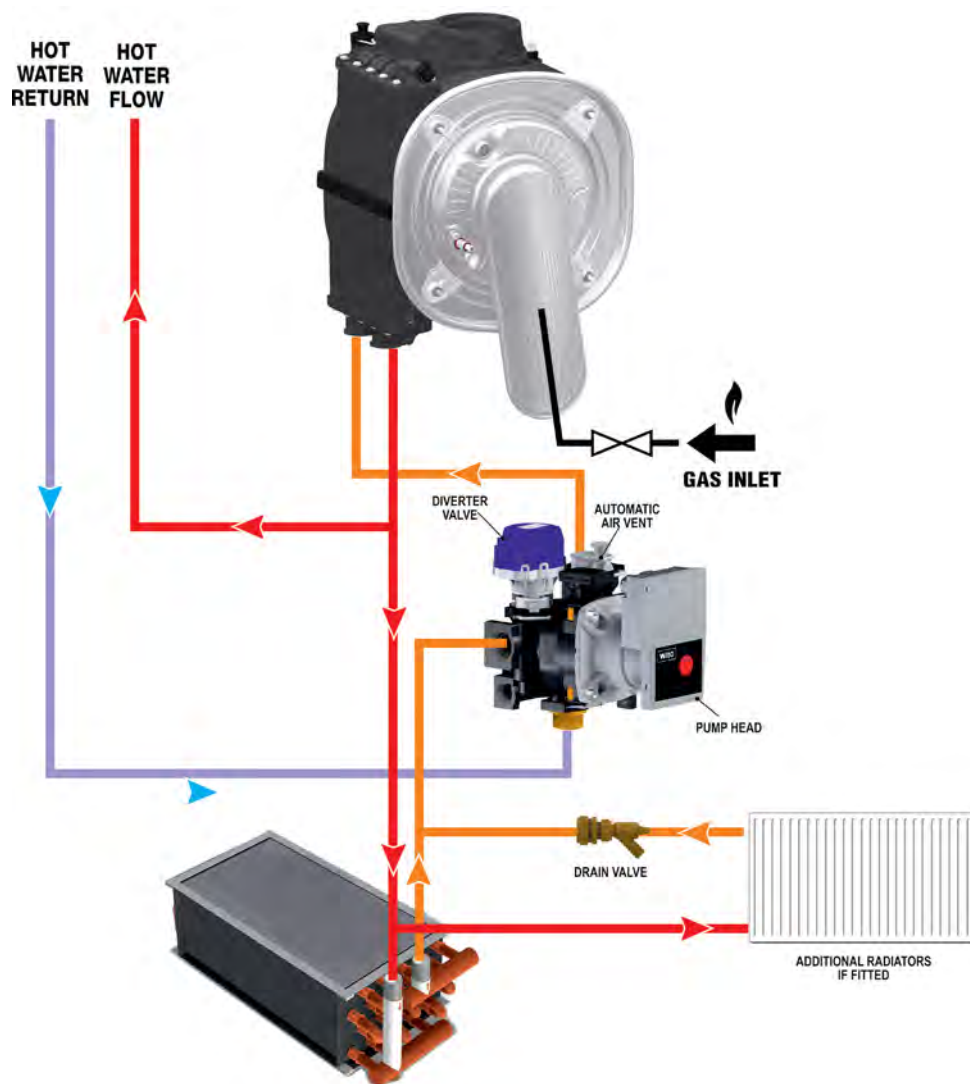

FIGURE 3. WATER FLOW SCHEMATIC
- 9.2.1 Any additional radiators must be connected to pipe tails provided as detailed in Figure 3.